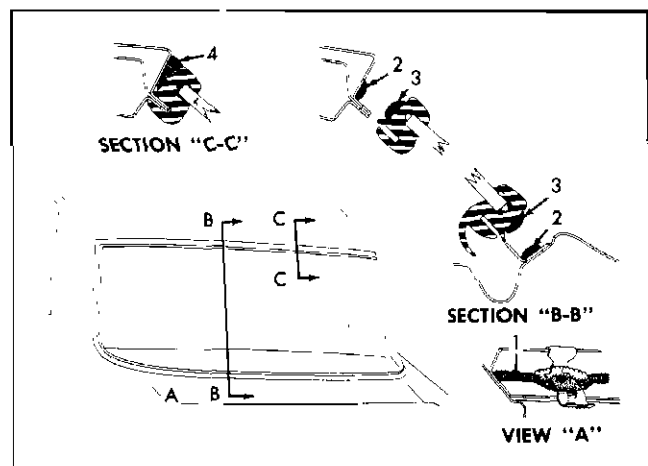

Fig. 4-7 Back Window Sealing—39 Styles
2. Check installation of reveal molding clips at pinchweld and retaining flanges and replace clips, where necessary. If replacing clips, apply medium-bodied sealer to opening rabbet, prior to installing clips. (1 in View A, Fig. 4-7)
3. Apply a continuous ribbon of medium-bodied sealer (approximately $\frac{1}{2}$ inch wide by $\frac{1}{4}$ inch thick) on wall of rabbet completely around opening. (2 in Section B-B, Fig. 4-7).
5. Apply a continuous ribbon of medium-bodied sealer (approximately $\frac{1}{2}$ inch wide by $\frac{1}{4}$ inch thick), completely around base of rubber channel. (3 in Section B-B, Fig. 4-7).
8. Using a pressure type applicator, apply sufficient medium-bodied sealer to completely fill the wedge shaped opening between rubber channel and body across top of channel. (4 in Section C-C, Fig. 4-7).